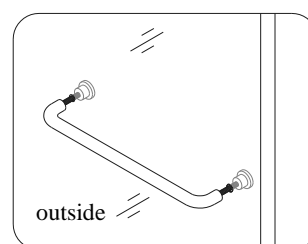
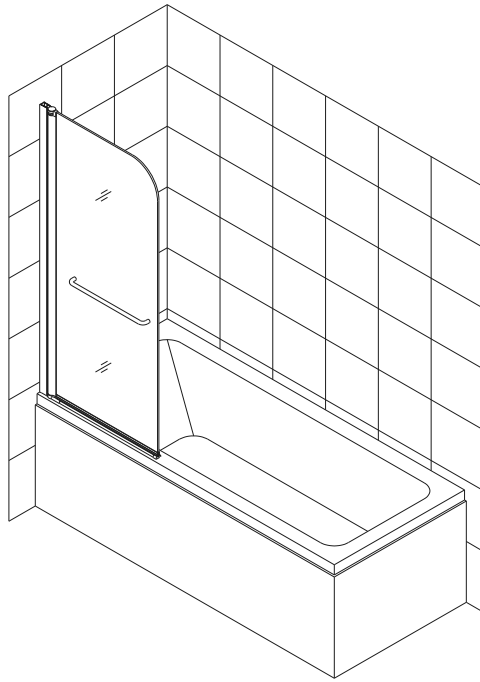

Fig 7
Fig 8
7. Mount the **Handle (11)** onto the outside of the **Glass door (02)**. See Fig 7 and Fig 8.